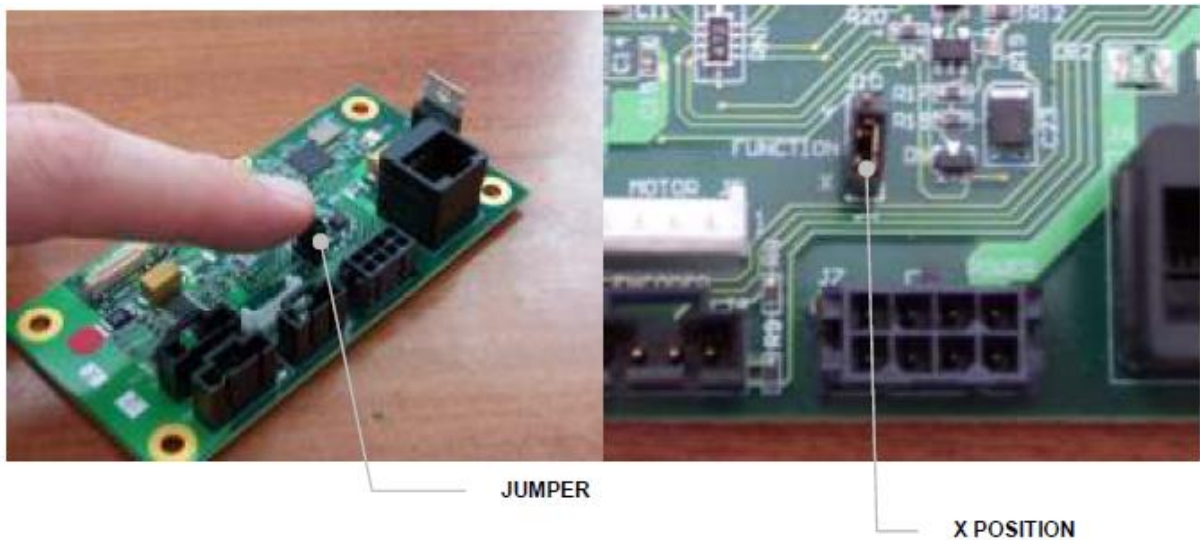

Figure Q-3: Setting the Jumper on the Reagent Pipettor X Drive Board
2. Disconnect all electrical connections from the PCB and remove it from the slots in the card guide. When replacing the board, ensure that the jumper (indicated in Figure Q-3) is in the 'X' position. The jumper is removed by lifting it off the pins and placing back on the lower two pins (marked 'X' and 'Function').